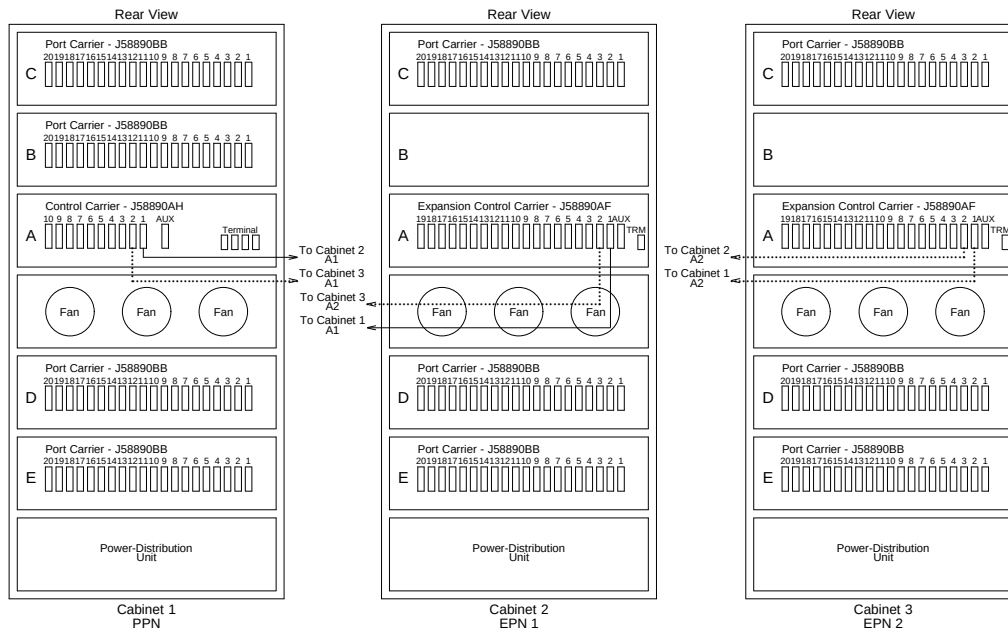
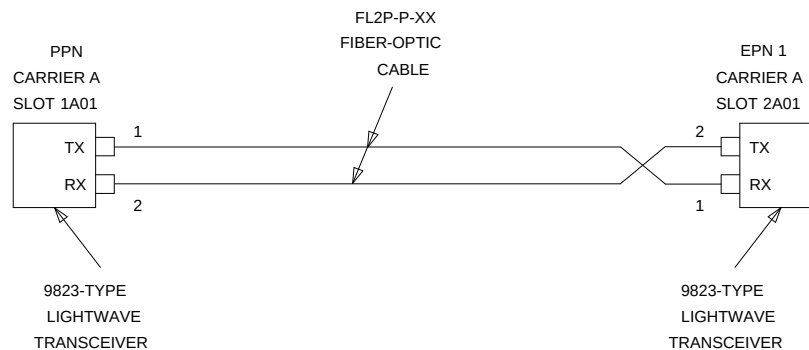
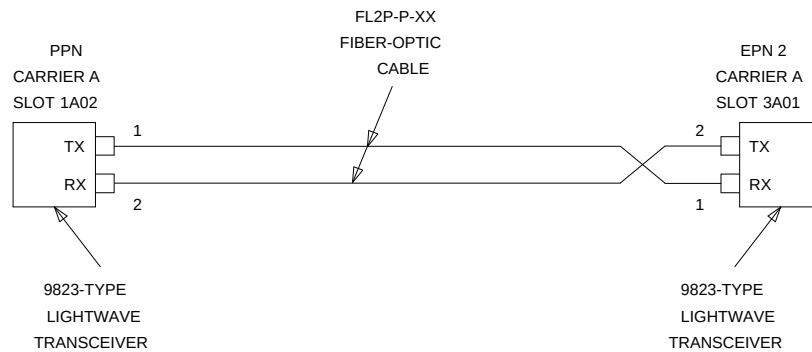

Figure 7-10. Standard-Reliability DEFINITY ECS Release 5 with Two or Three Port Networks
Figure 7-11. Fiber-Optic Connections PPN to EPN1
Figure 7-12. Collocated Fiber-Optic Connections PPN to EPN2
The connectors on the lightwave transceivers are labeled either "TX" (transmit) or "RX" (receive), while the fibers attached to each connector are numbered either "1" or "2." A viable fiber connection is only made when both fibers in each cable (that is, "1" and "2") route from the "TX" connector of a port network to the "RX" connector of its adjacent port network. For an example, refer to Figure 7-11 on page 7-34.
1. Behind control carrier A of PPN cabinet 1 (see Figure 7-10, Figure 7-11, Figure 7-12, and Figure 7-12):